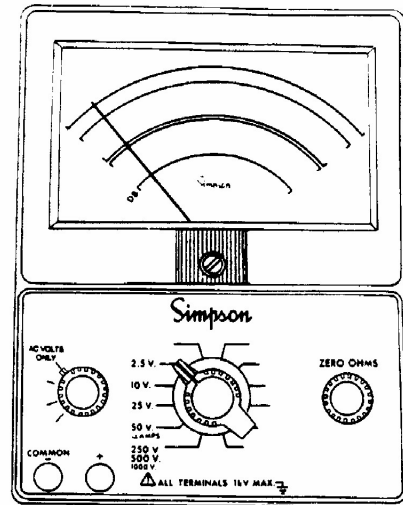

FIGURE 4-10. JACKS AND SWITCH POSITIONS FOR MEASURING DECIBELS
- b. Refer to Figure 4-10 for switch settings and jack connections.